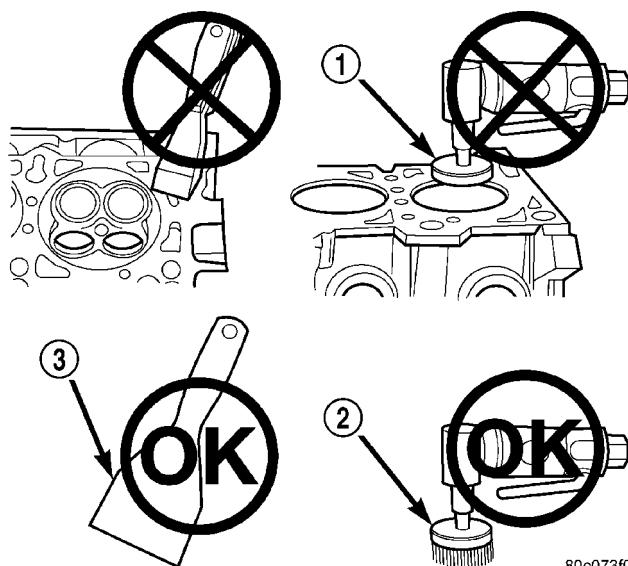

Fig. 4 Proper Tool Usage For Surface Preparation
- High speed power tool with an abrasive pad or a wire brush (Fig. 4)
- Plastic or wood scraper (Fig. 4)
- Drill motor with 3M Roloc™ Bristle Disc (white or yellow) (Fig. 4)